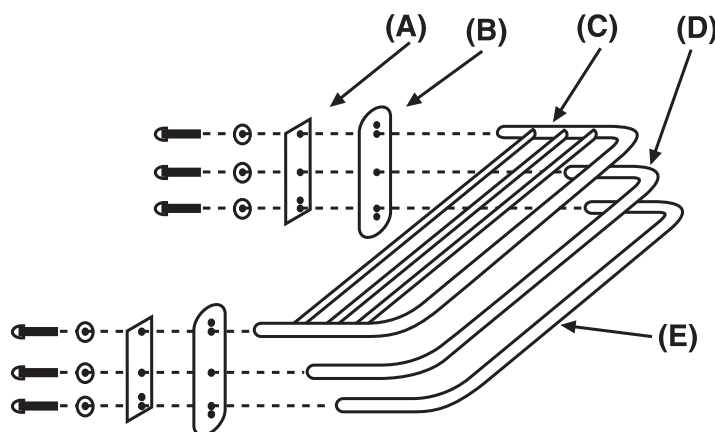

Figure 1
1. Assemble towel shelf **(C)** by inserting 1-1/2" machine screws through lock washers, and support plates **(A)** into holes in back of wall flanges **(B)** and fasten into threaded ends of shelf. *(see figure 1)*
2. Assemble medium size towel bar **(D)** below shelf in the same way as in step number 1. *(see figure 1)*
Then assemble shorter size towel bar **(E)** below medium size towel bar **(D)** in the same way as in step number 1. *(see figure 1)*